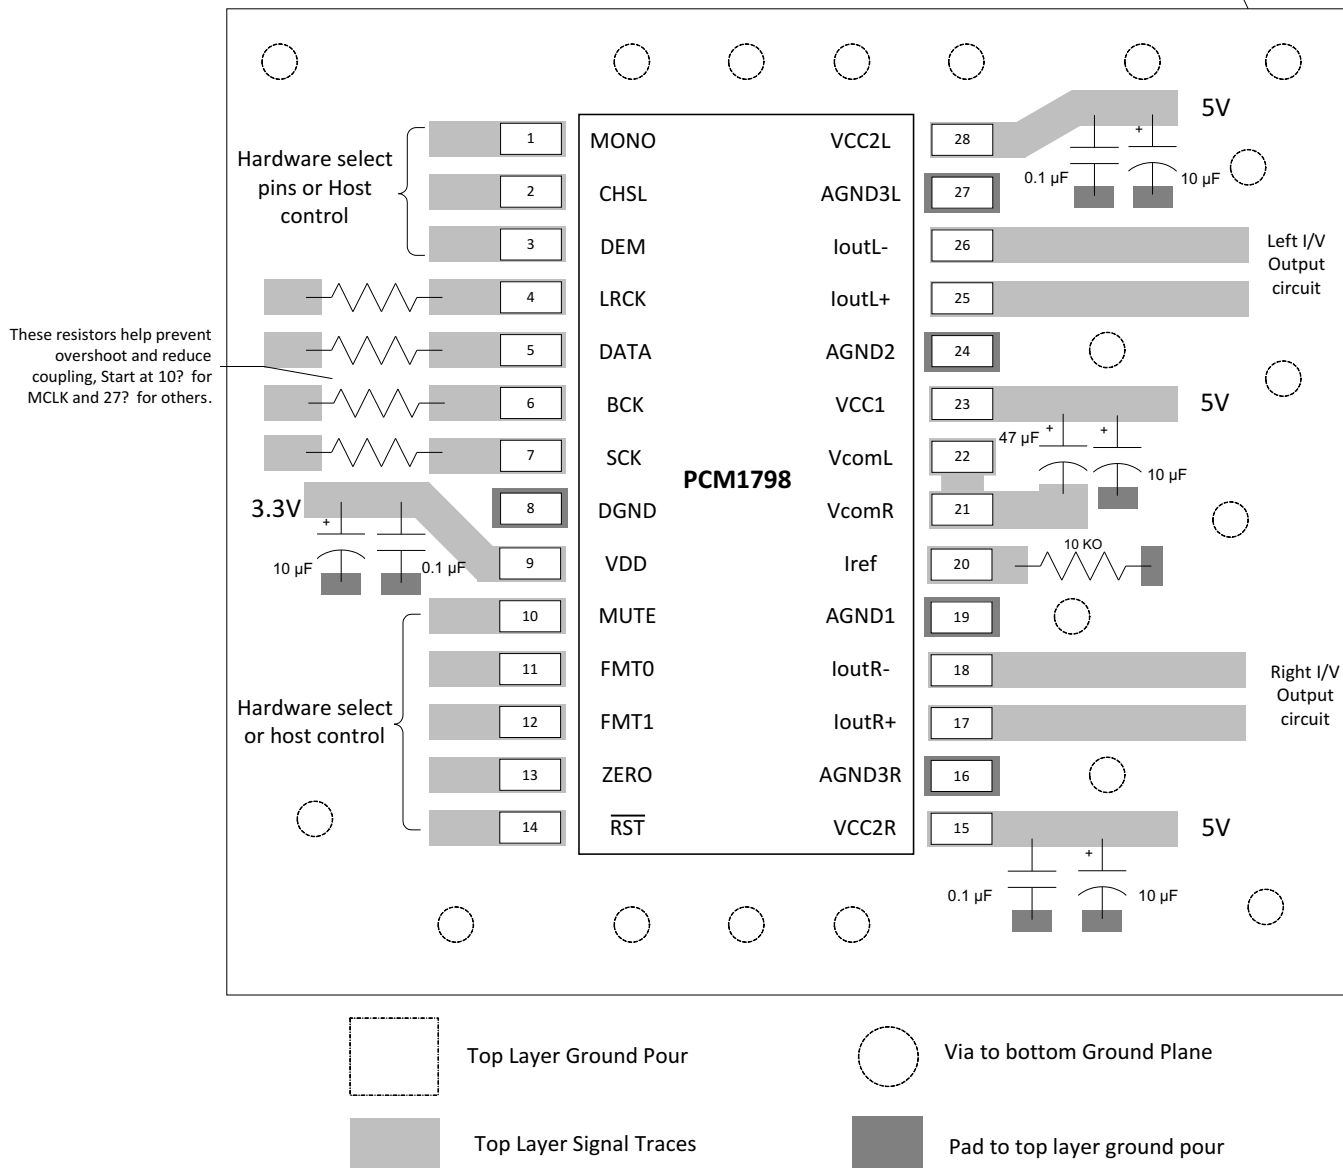

Figure 34. PCM1785 Layout Example
- Further guidelines can be found in Figure 34.